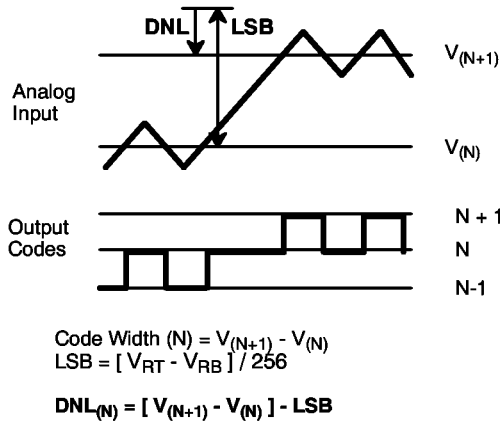
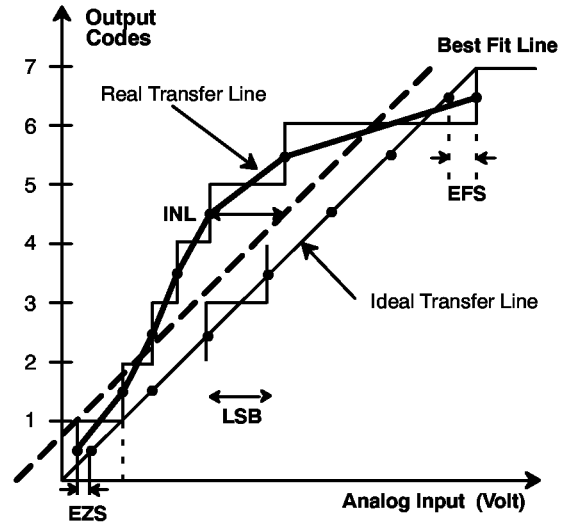

Figure 3. DNL Measurement
Figure 4. INL Error Calculation
- ¹ Tester measures code transitions by dithering the voltage of the analog input (V_{IN}). The difference between the measured and the ideal code width (V_{REF}/256) is the DNL error (Figure 3.). The INL error is the maximum distance (in LSBs) from the best fit line to any transition voltage (Figure 4.). Accuracy is a function of the sampling rate (FS).